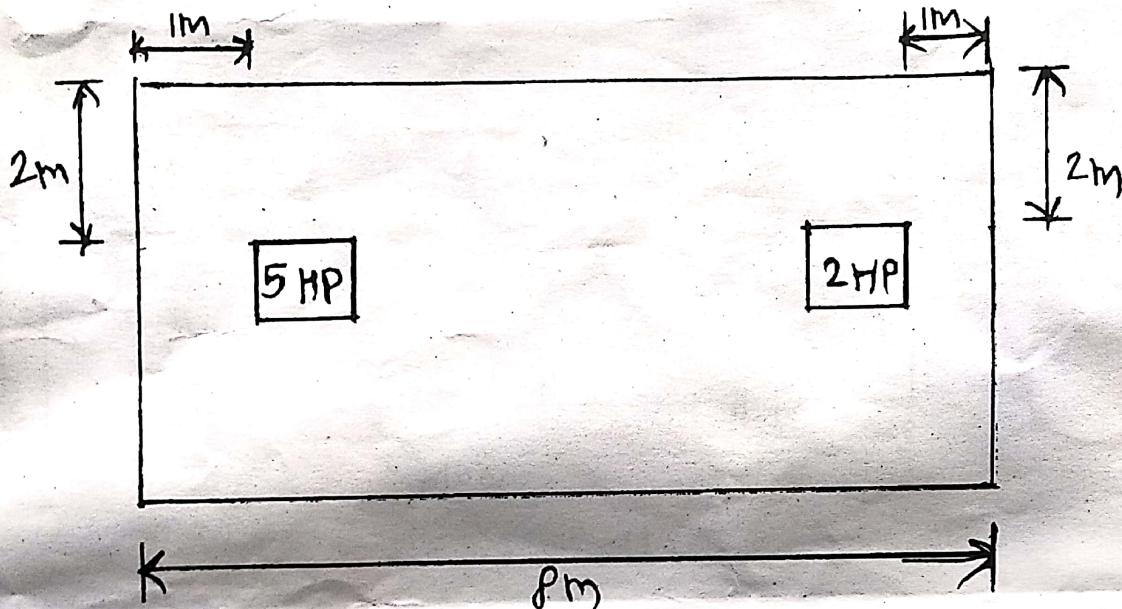

Fig. No. 1
- b) Prepare the schedule of material for industrial load as per Figure No. 1.